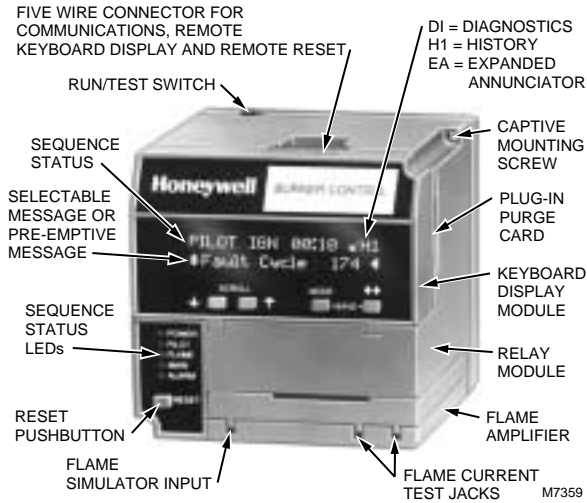

Fig. 1. Keyboard Display Module and sequence status LEDs.
- Five sequence information LEDs, see Fig. 1.